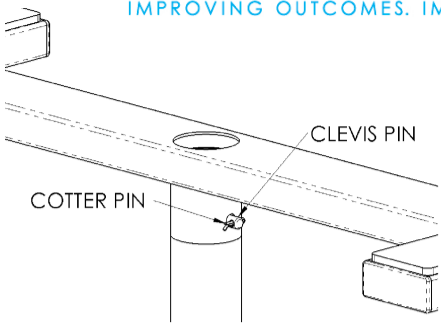

FIGURE 2
2. If you have a 7 foot ceiling, do not use Extension Tube (ITEM-2). Attach the Upper Frame (ITEM-1) directly to ITEM-3 by aligning the holes in ITEM-1 and ITEM-3 and inserting the Clevis Pin (ITEM-6) through the holes. After the Clevis Pin is inserted, place the Cotter Pin (ITEM-7) through the hole of the Clevis Pin and bend the end of the Cotter Pin to secure the Clevis Pin as shown in Figure 2.
3. If you have an 8 to 10 foot ceiling, attach the Upper Frame (ITEM-1) to the Extension Tube (ITEM-2) by aligning the holes and inserting the Clevis Pin and Cotter Pin as shown in Figure 2.